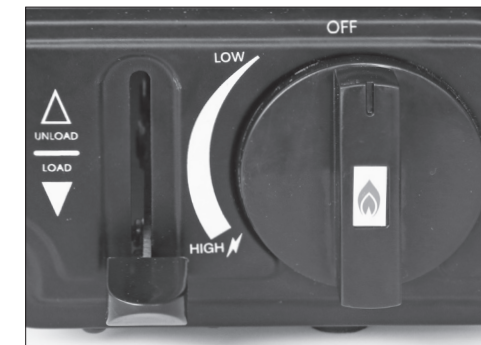

Fig. 3
3. Push the Cartridge Lever down to 'LOAD' in one firm motion (Fig. 3).